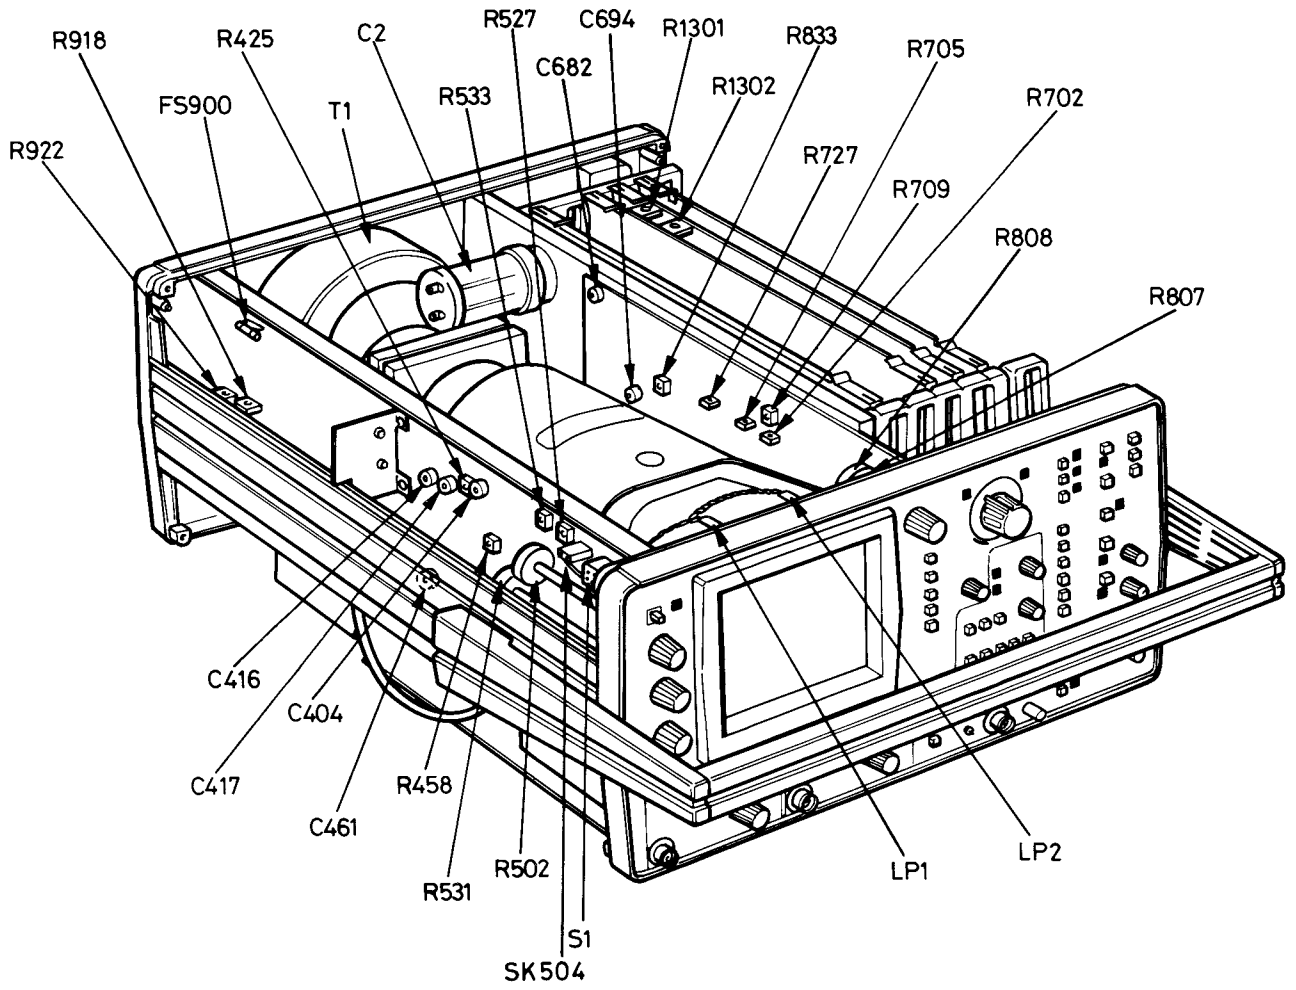

Fig. 5.1 Front View
2. The +150V/+75V fuse FS900 mounted on the Power Supply board at the L.H.S. rear of the instrument see Fig. 5.1. Access is by removing the top cover (see section 5.2). The fuse rating is 250mA Fast Blow 500mA (Part No. 32338)
Figures 5.1, 5.2 & 5.3. illustrate the internal layout of the instrument and show the positions of the majority of preset components. These are accessible when the top and bottom covers have been removed. Each cover is held in position by four retaining screws.
The calibration procedure is detailed below. Note that any calibration adjustments found necessary must not be made until a 15 minute warm-up period has elapsed. The locations of the various preset components are shown in Figs. 5.1, 5.2 and 5.3.